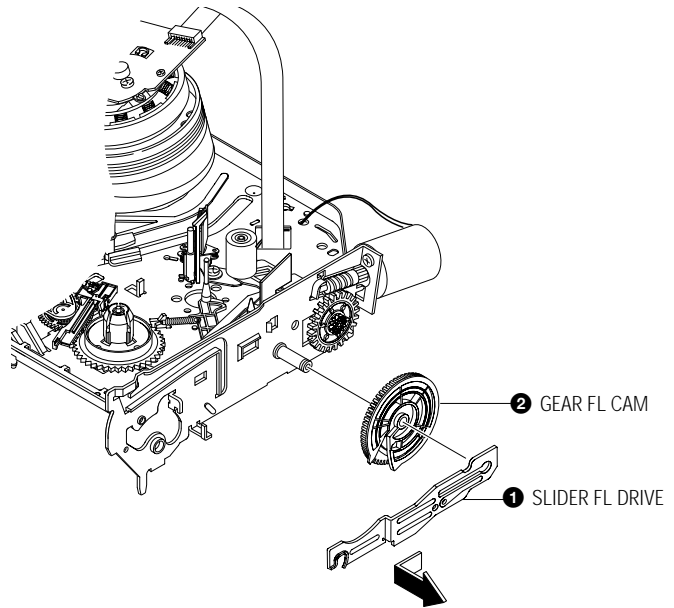

Fig. 2-14 Slider FL Drive Removal
- 1) Pull the Slider FL Drive ❶ to the front direction.
- 2) Remove the Slider FL Drive ❶ in the direction of arrow. (Refer to Fig. 2-14)
- 3) Remove the Gear FL cam ❷.